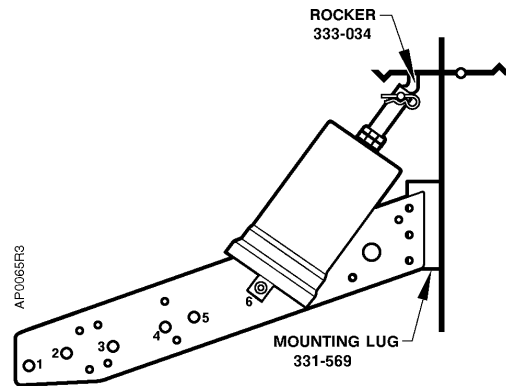

Figure 8. No. 4 Actuator Frame Mounting,
- b. Normally open damper: attach plate to lug (Figure 8). Place pivot post in Hole 6.